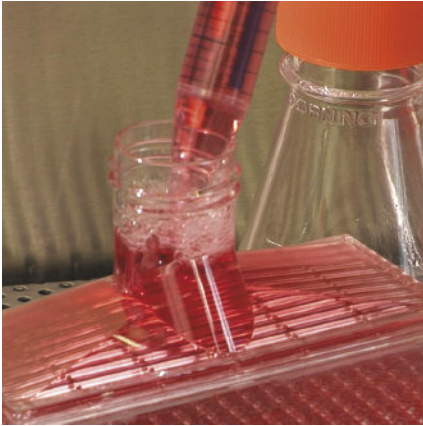

Figure 2. Add medium to the first cap thread before replacing cap.
5. Add medium (~60 mL) to bring the fluid level in the flask equal to the lowest thread on the neck (Figure 2). If excessive bubble formation occurs it may be necessary to aspirate or pipet out some of the bubbles and add medium to the lowest cap thread.